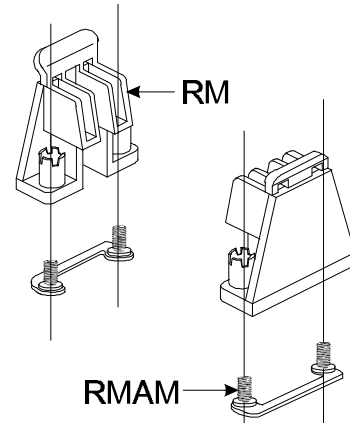

Figure 2-23
- ❑ Retention Mechanism (RM) - Two Plastic Guides that hold the S.E.P.P in the Slot 1 connector. (Refer to Figure 2-23)
- ❑ RM Attach Mount (RMAM) - Bolt/Bridge assembly inserted up through the bottom of the mainboard, then secures the RM to RMAM (two RMAM required per RM). (Refer to Figure 2-23)